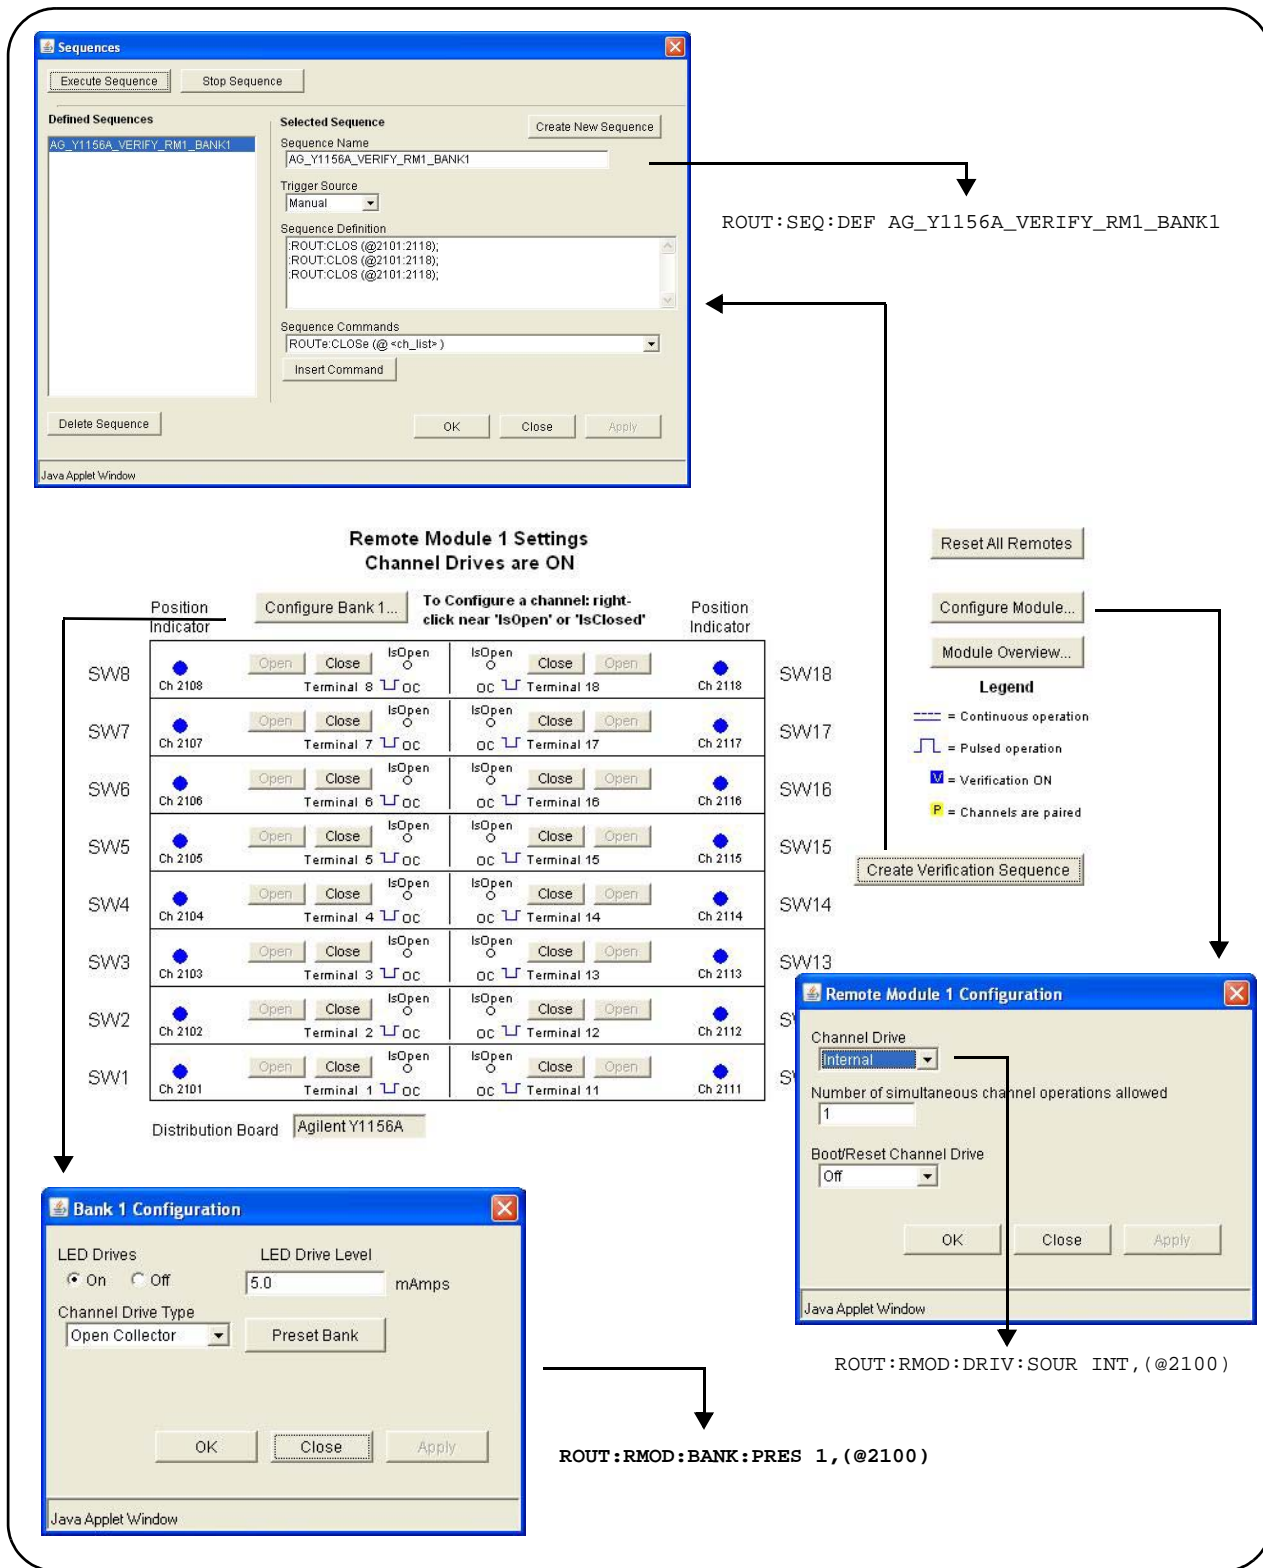

Figure 4-8. Running the Y1156A Verification Sequence.
- 4 Select 'Allow Full Control' and in the 'Browser Web Control' window, locate the bank and Y1156A programming diagram. An example of the diagram is shown in Figure 4-8. For this example, the 34945A is installed in 34980A slot 2.